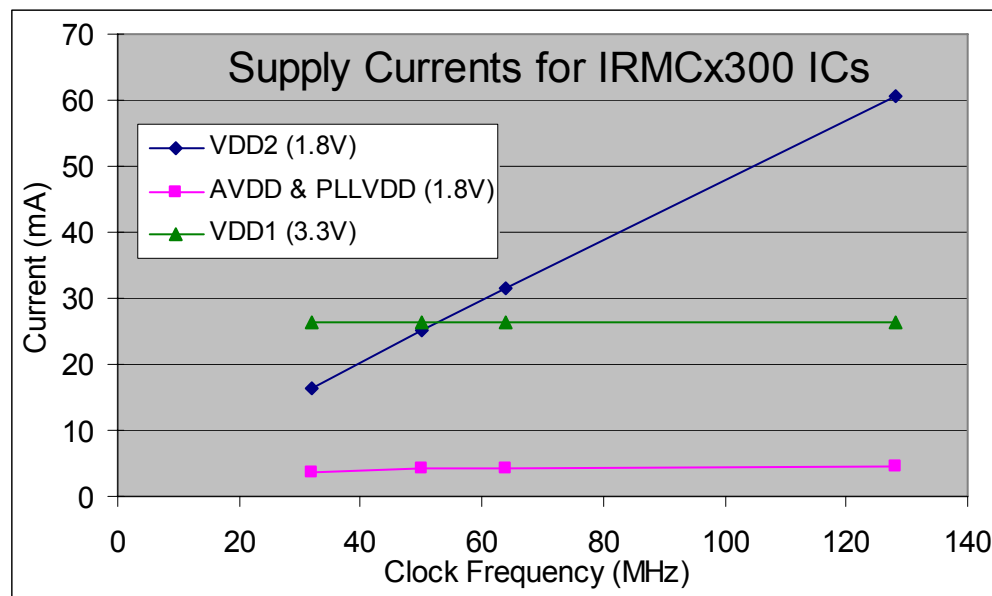

Figure 54—Supply Currents for the IORMCx300
**Power Supplies**—Figure 54 below plots the supply currents required to provide power to the control IC. The 1.8V digital supply current (VDD2) is strongly dependent on the clock frequency used in the IORMCx300. For more information on setting the clock frequency, see the Software Developer's Guide or the Reference Manual.